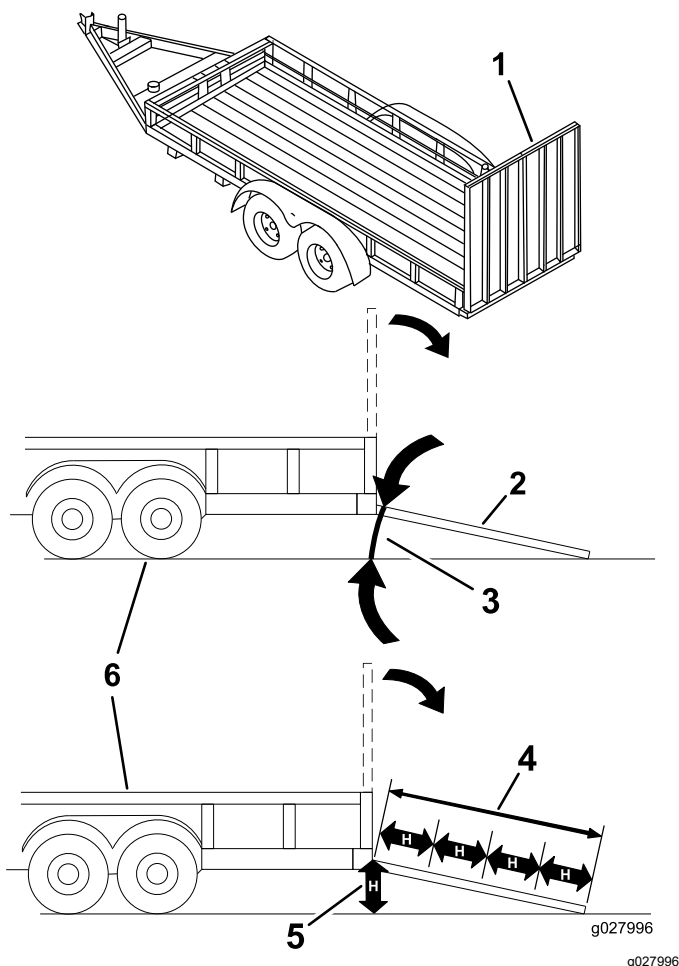

Figure 32
Loading a machine onto a trailer or truck increases the possibility of tip-over and could cause serious injury or death (Figure 32).
3. Lower the ramp, ensuring that the angle between the ramp and the ground does not exceed 15 degrees (Figure 32).
1. Lower the ramp, ensuring that the angle between the ramp and the ground does not exceed 15 degrees (Figure 32).